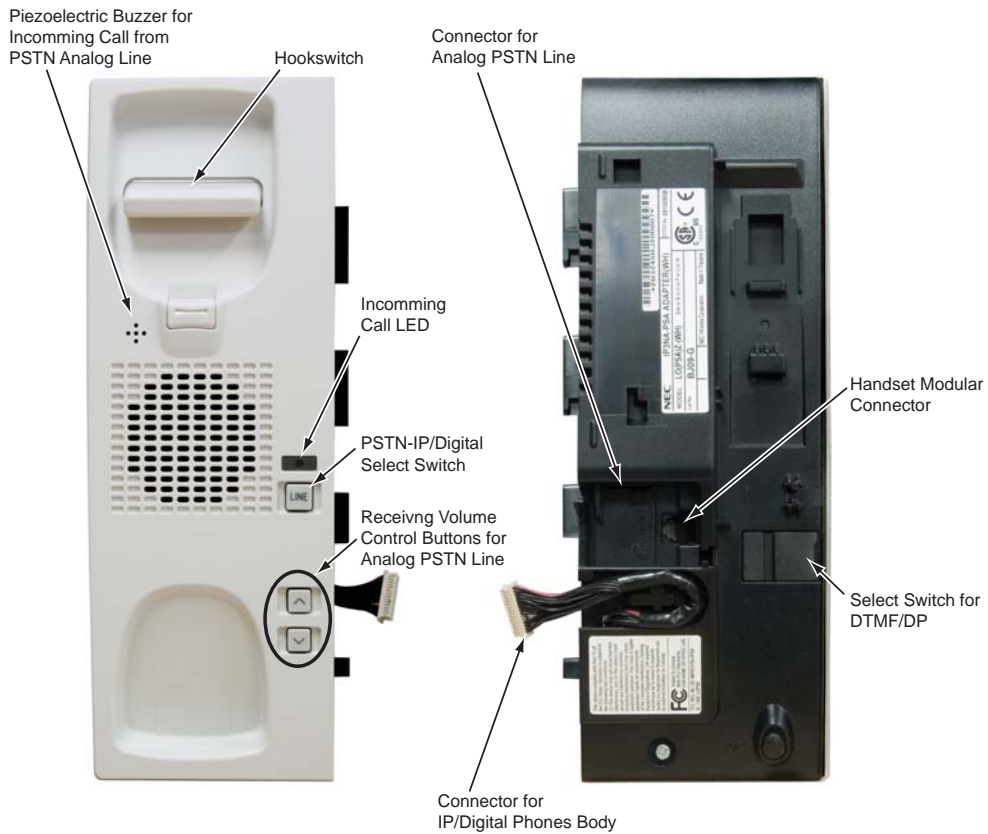

Figure 4-27: PSA LAYOUT
4.14.8 PSA-R Adapter (Figure 4-27 - P/N 0910090 (WH) and 0910088 (BK))